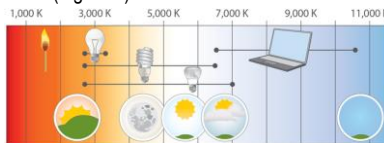

Figure 2 The Kelvin scale of light colour temperatures
- The colour temperature represents the ‘feel’ of the light: a ‘warm’ yellow (or pink-white) light versus a ‘cold’ blue-white light; this is usually stated in Kelvin (K), the unit of absolute temperature (Figure 2).